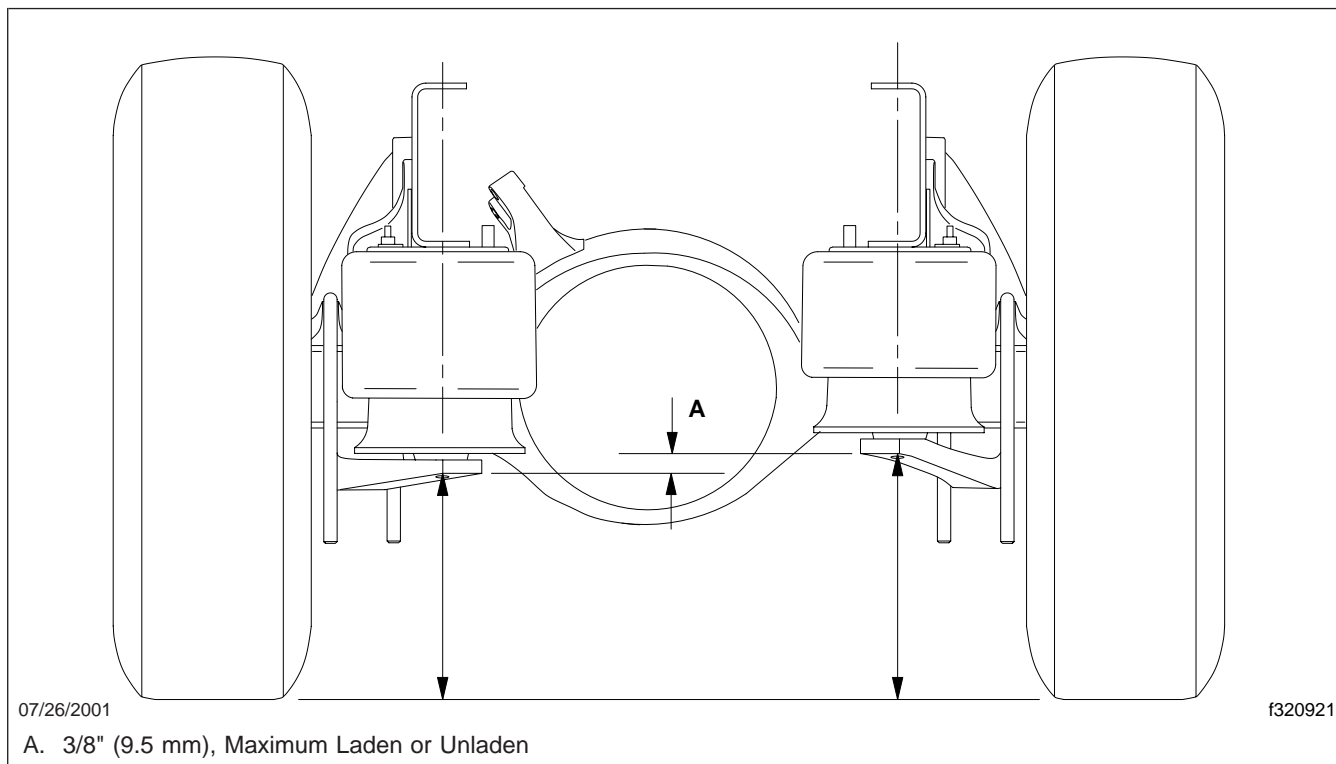

Fig. 11, AirLiner Leaf Spring Rear-End Camber Measurement
1. Measure the distance from the bottom of each leaf spring to the ground. Measure at the air-spring mounting hole. See Fig. 11. Repeat each measurement three times to ensure accuracy.